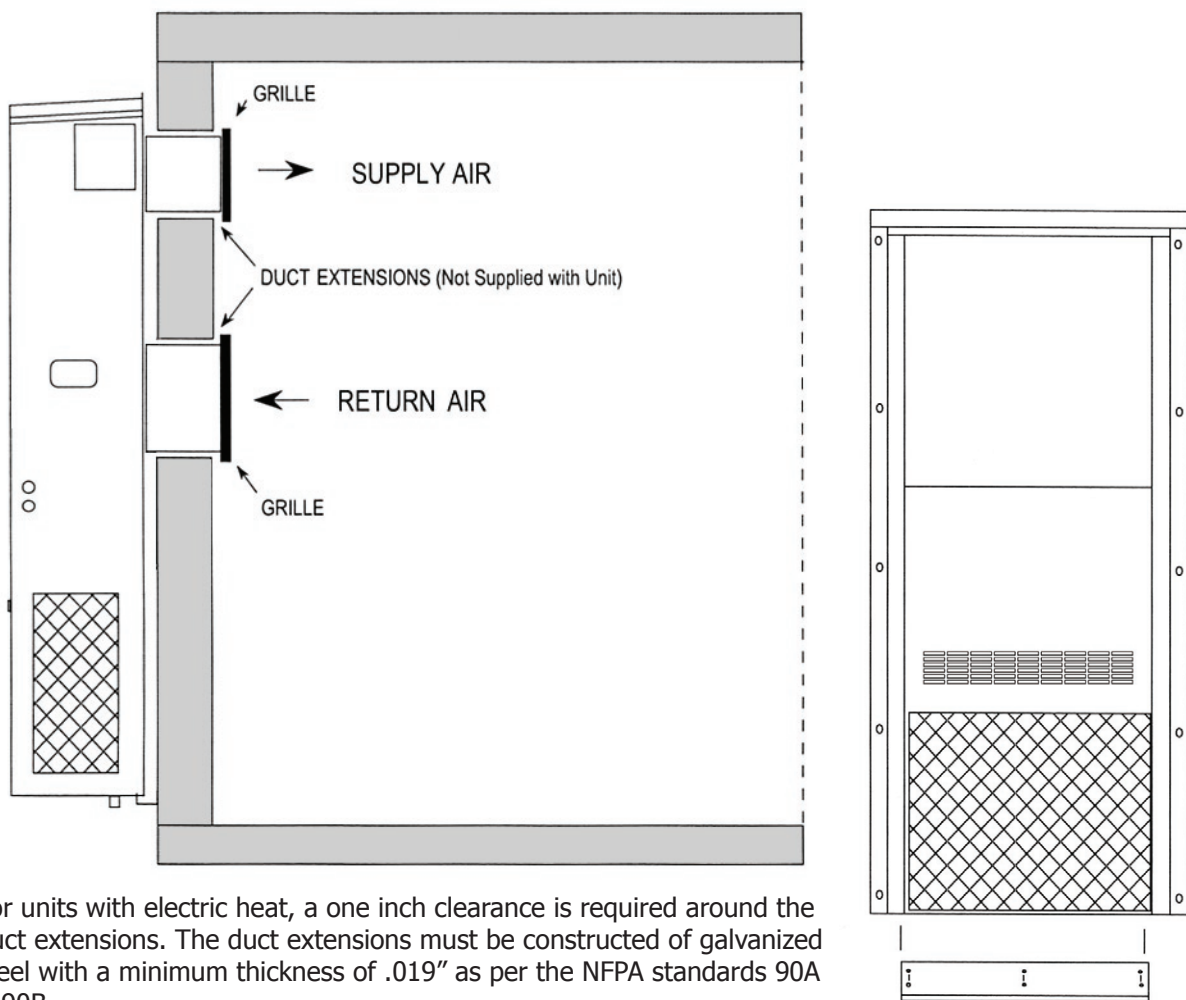

Figure 5. ComPac® I and ComPac® II A/C Wall Mount Detail
3. Refer to Figure 5. Attach the bottom support bracket to the wall using appropriate 3/8" diameter hardware.